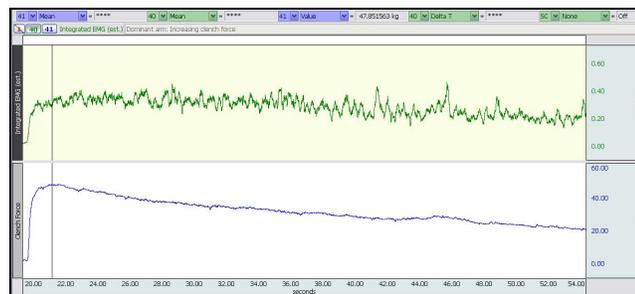

Fig. 2.18
- Use the **I-Beam** cursor to select a point of maximal clench force immediately following the start of the recording (Fig. 2.18).
The point selected should represent the maximal clench force at the start of continuous maximal clench recording, as shown in Fig. 2.18.